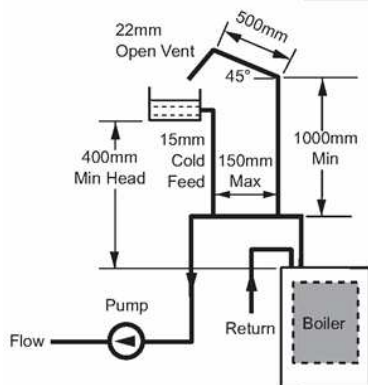

Fig. 4
1. Using a close coupled arrangement the minimum head is as shown in the diagrams (Figs. 4, 5 & 6) subject to the following conditions: